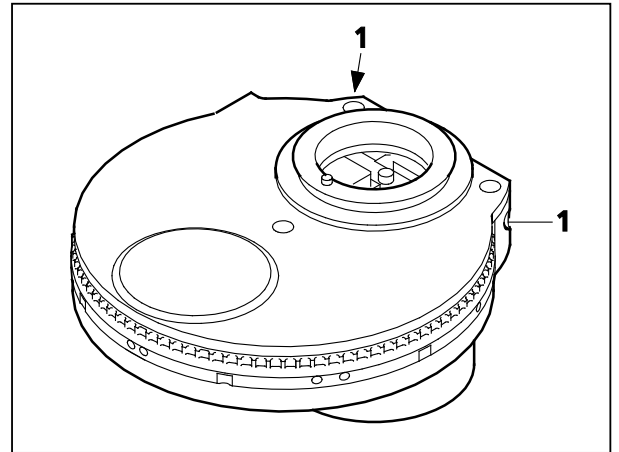
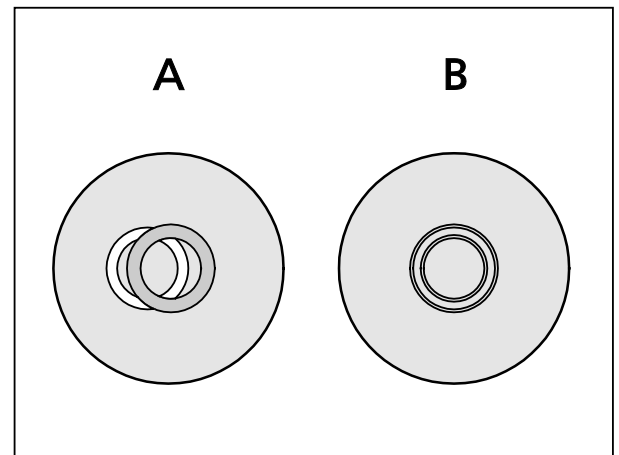

Fig. 150 Centering the phase stop on the condenser
Fig. 151 Centering the phase stop (bright ring in condenser) to the phase ring (dark ring in objective)
- If the congruence is not perfect (Fig. 151/A), the bright stop must be centered using two 1.5 mm Allen keys (Fig. 150/1) until it is completely congruent with the dark phase plate (Fig. 151/B).
To enhance image contrast, a wide-band interference filter, green 32 x 4, can be inserted in the filter changer. Perfect phase contrast is only achieved if the bright phase stop (in the condenser) and the dark phase plate (in the objective) are precisely congruent in the illumination beam path (Fig. 151/B).